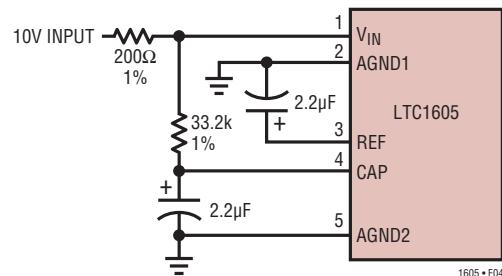
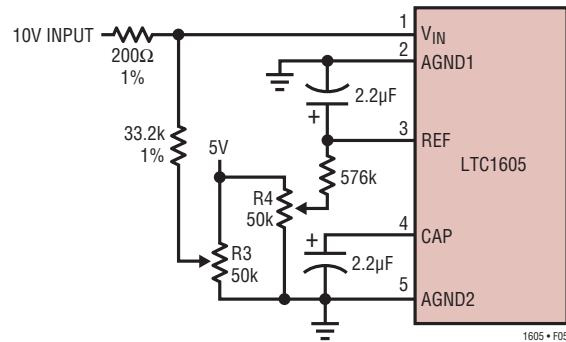

Figure 4. ±10V Input Without Trim
Figure 5. ±10V Input with Offset and Gain Trim
**Note 12:** As measured with fixed resistors shown in Figure 4. Adjustable to zero with external potentiometer.
The LTC1605 offset and full-scale errors have been trimmed at the factory with the external resistors shown in Figure 4. This allows for external adjustment of offset and full scale in applications where absolute accuracy is important. See Figure 5 for the offset and gain trim circuit. First adjust the offset to zero by adjusting resistor R3. Apply an input voltage of  $-152.6mV$  ( $-0.5LSB$ ) and adjust R3 so the code is changing between 1111 1111 1111 1111 and 0000 0000 0000 0000. The gain error is trimmed by adjusting resistor R4. An input voltage of  $9.999542V$  ( $+FS - 1.5LSB$ ) is applied to VIN and R4